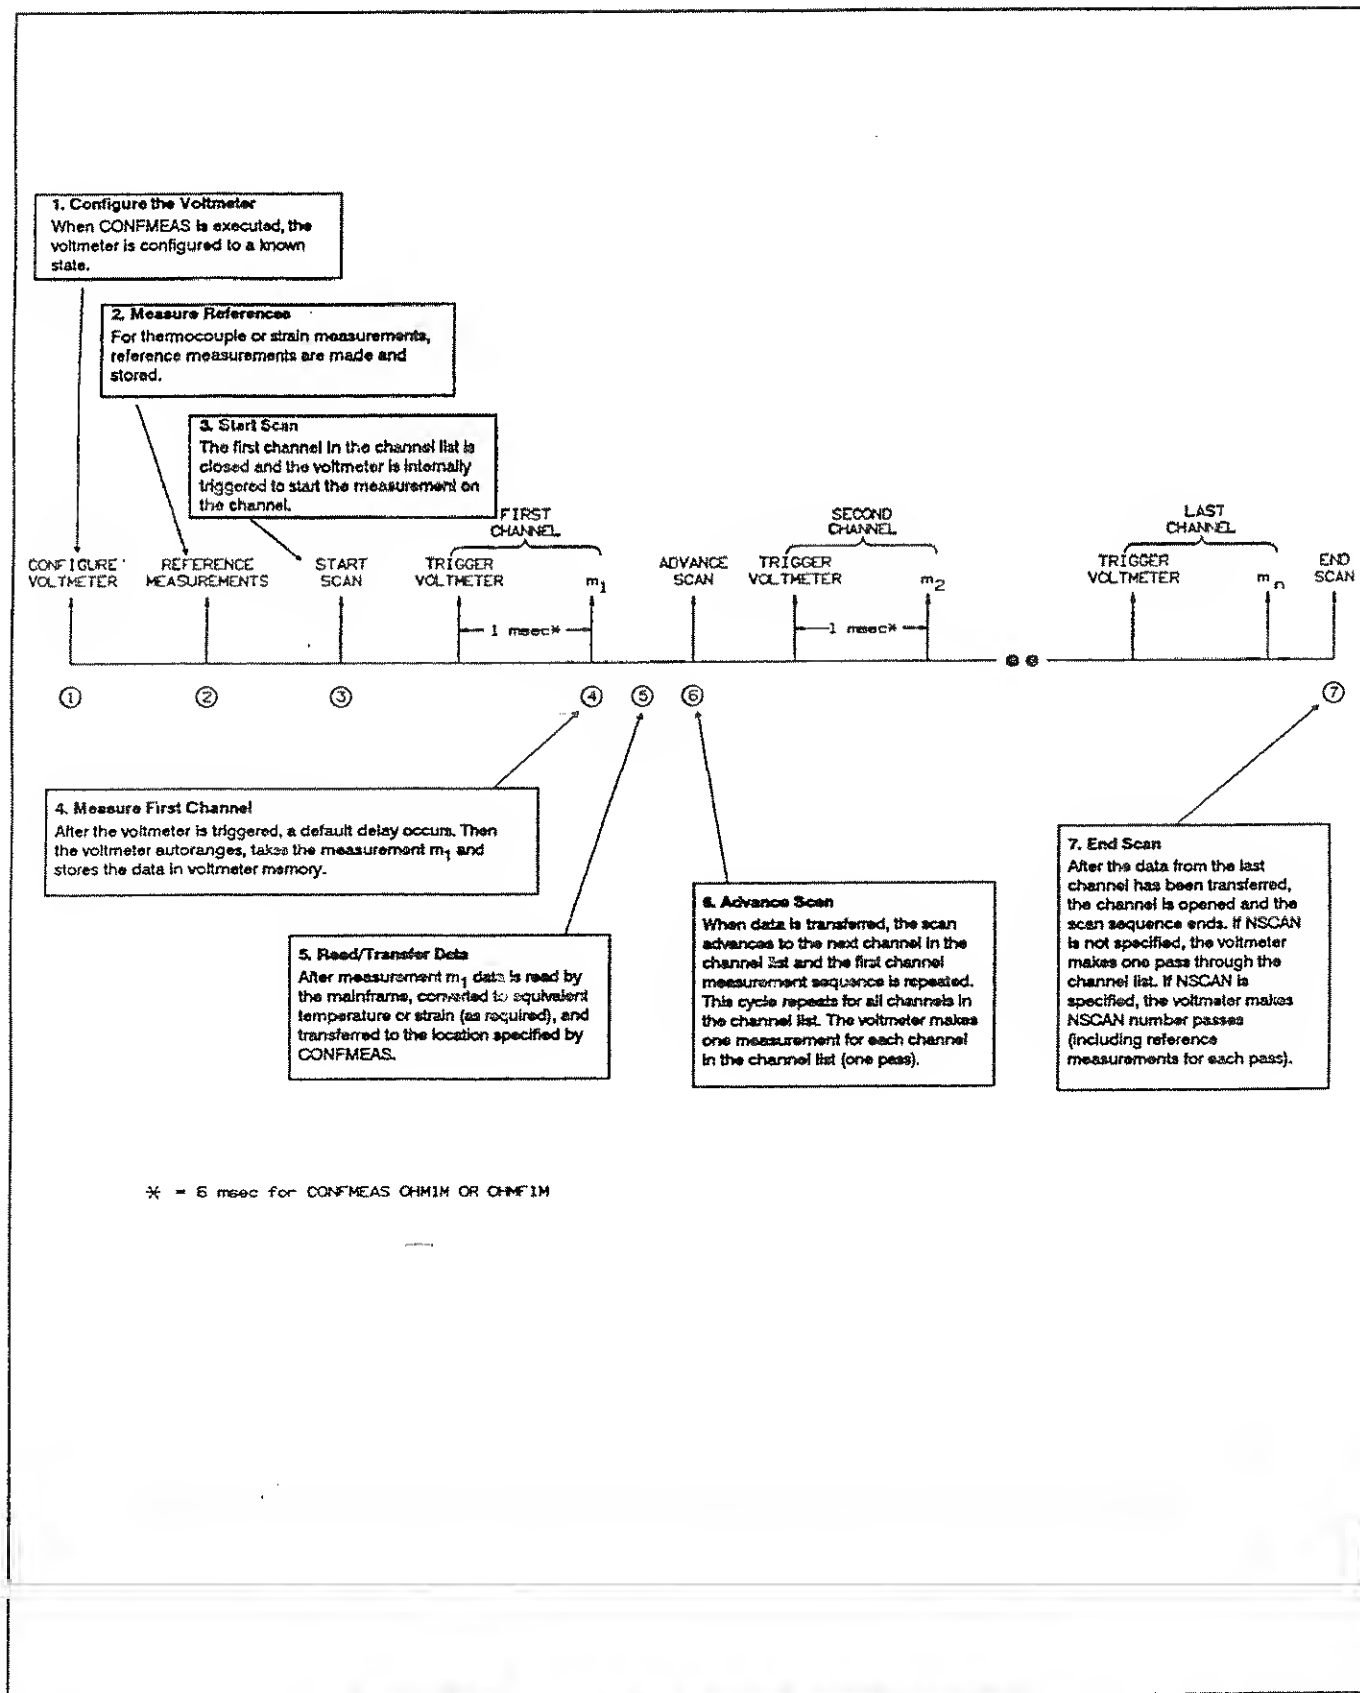

Figure 4-2. CONFMEAS (System Mode) Operation
Figure 4-2 is a simplified version of voltmeter operation for CONFMEAS in system Mode. When CONFMEAS is executed the voltmeter is configured (1), any required thermocouple or strain references are measured (2), and the scan sequence is started (3).